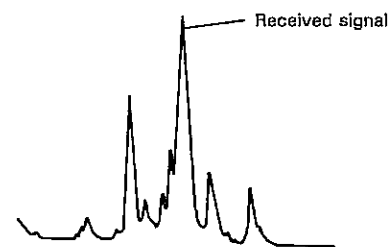

Figure 4. Electric wave distribution observed during signal reception
- 3) When  $\blacktriangle$  has been properly set, turn the CAL marker switch of the TS-950 to OFF to prepare for signal reception. Electric wave distributions such as that in Figure 4 can be observed.